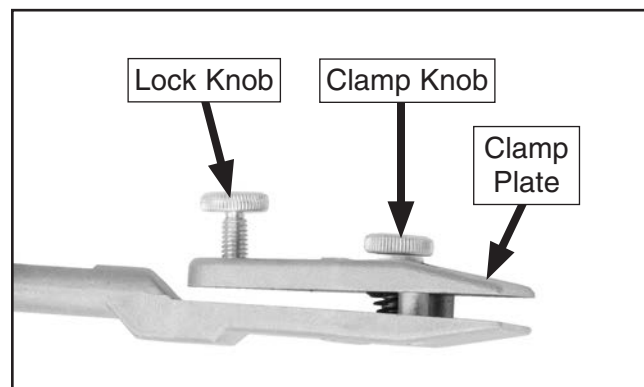

Figure 4. Clamp components.
5. Loosen clamp knob enough to allow knife blade to slide in (see **Figure 4**).
6. Loosen lock knob enough so it does not extend through clamp plate (see **Figure 4**).